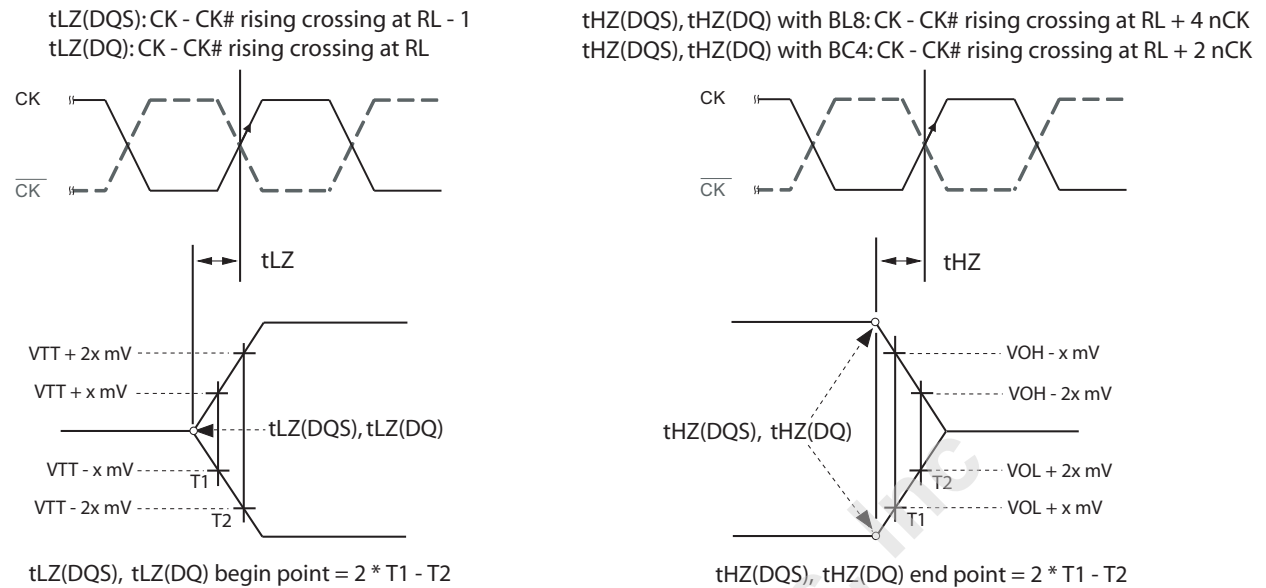

Figure 30 — t_{LZ} and t_{HZ} method for calculating transitions and endpoints
$t_{LZ}(DQS)$, $t_{HZ}(DQS)$ for preamble/postamble (see 4.13.2.3 and Figure 30)
4.13.2.3 tLZ(DQS), tLZ(DQ), tHZ(DQS), tHZ(DQ) Calculation
tHZ and tLZ transitions occur in the same time window as valid data transitions. These parameters are referenced to a specific voltage level that specifies when the device output is no longer driving tHZ(DQS) and tHZ(DQ), or begins driving tLZ(DQS), tLZ(DQ). Figure 30 shows a method to calculate the point when the device is no longer driving tHZ(DQS) and tHZ(DQ), or begins driving tLZ(DQS), tLZ(DQ), by measuring the signal at two different voltages. The actual voltage measurement points are not critical as long as the calculation is consistent. The parameters tLZ(DQS), tLZ(DQ), tHZ(DQS), and tHZ(DQ) are defined as singled ended.